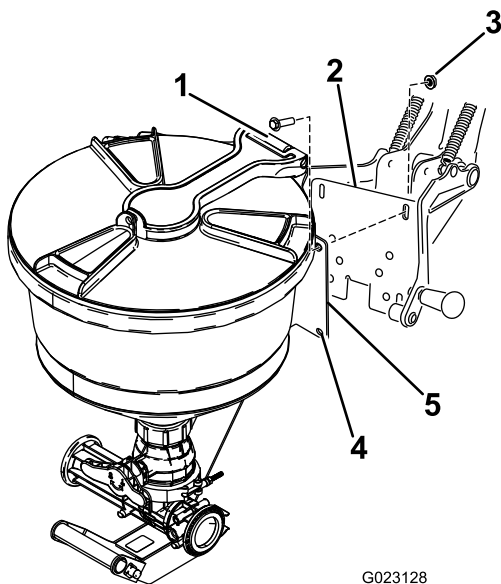

Figure 11
5. Align the holes in the eductor assembly mount plate with the slotted holes in the back plate of the cradle assembly (Figure 11).